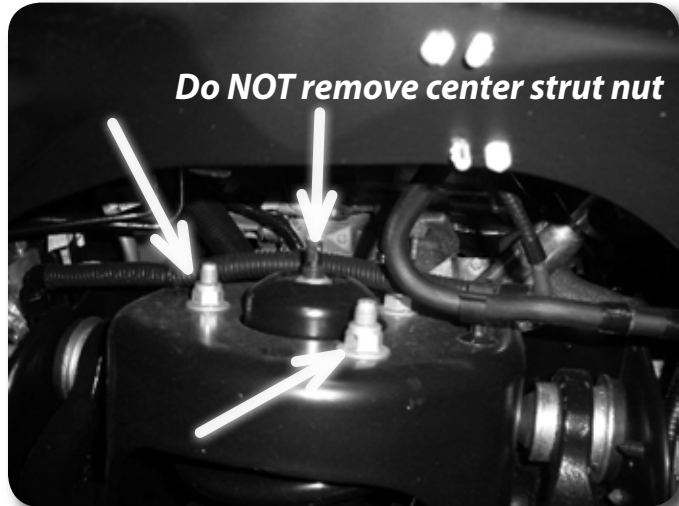

Figure 11
18. Loosen but do not remove the three strut assembly mounting nuts at the frame (Figure 11). Do not loosen the middle strut nut.